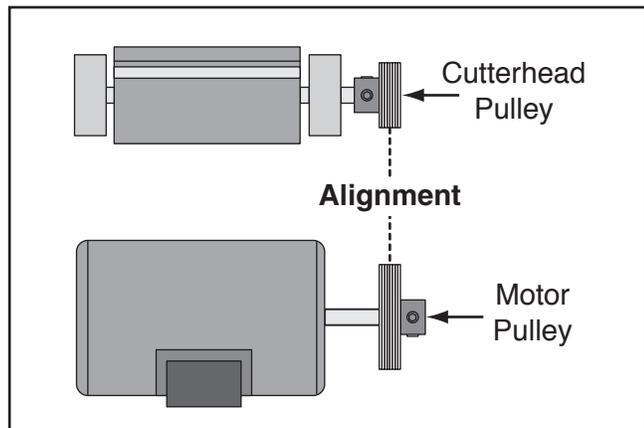

Figure 89. Example of pulleys aligned.
3. Visually check alignment of cutterhead and motor pulleys, as illustrated in **Figure 89**.